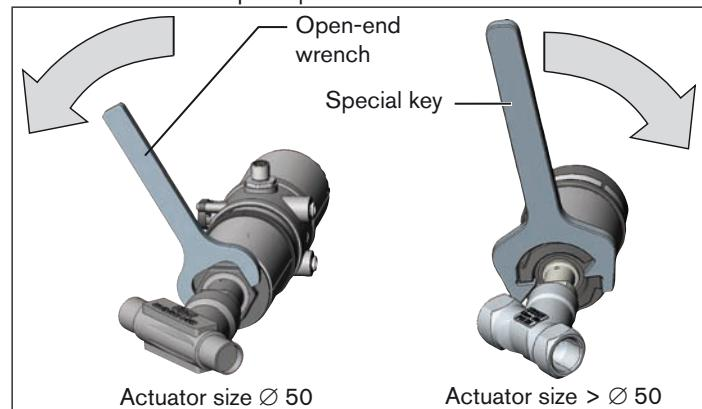

Fig. 16: Rotating with special key / open-end wrench
- Rotate the actuator module in the specified direction only (see "Fig. 16: ")!